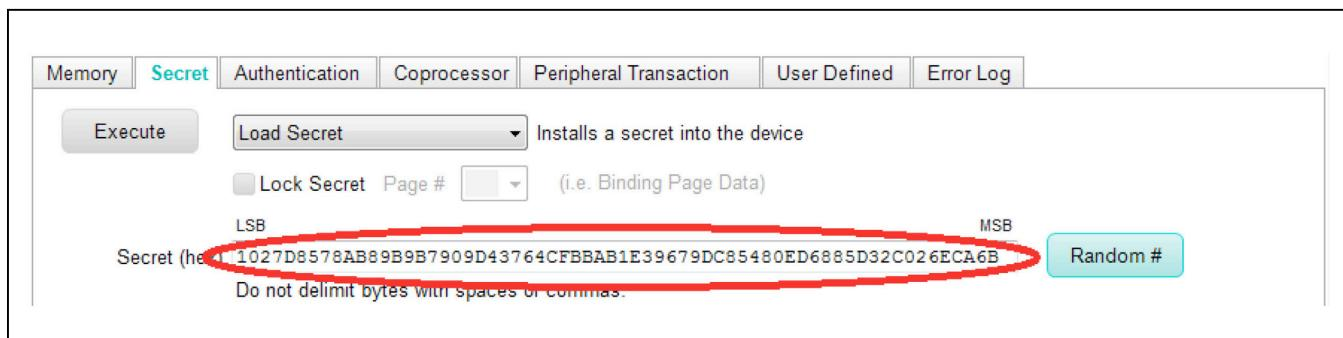

Figure 10. Secret (Hex) Field
- 6) Confirm the “**Secret (hex)**” field fills with a 32 byte random number that is used for the master secret in this tutorial (Figure 10).